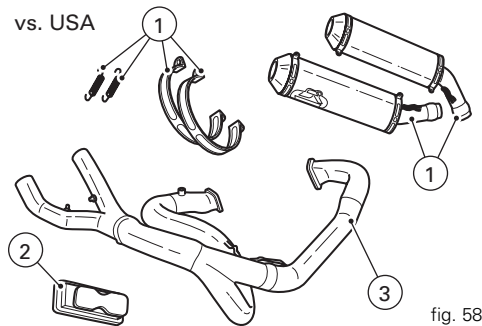

fig. 58
- carbon fibre silencers (1, fig. 58);
- dedicated ECU (2, fig. 58).
- dedicated ECU (2, fig. 58);
- central exhaust pipe (3, fig. 58).